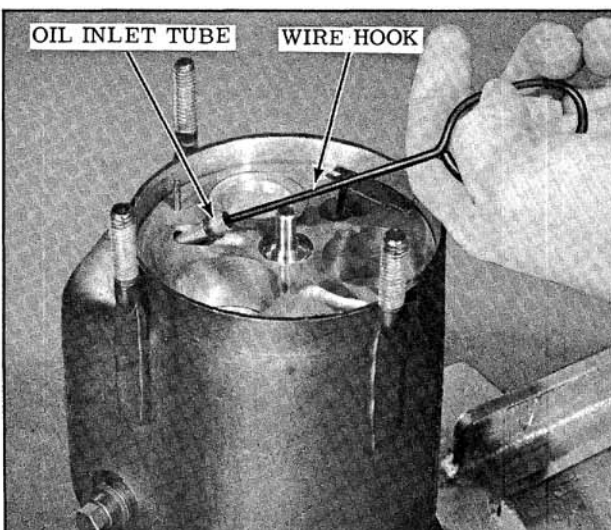

Fig. 14-120 Removing Oil Inlet Tube
8. Remove the oil inlet tube and "O" ring. Discard "O" ring. (Fig. 14-120)